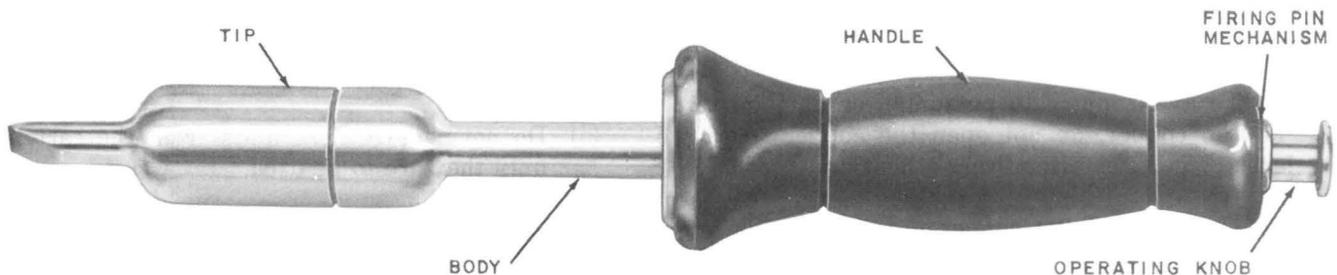

Fig. 1—KS-14582 L1 Soldering Copper with L5 Tip
3.01 The KS-14582 L1 and L2 (see Fig. 1) soldering coppers are conventional appearing